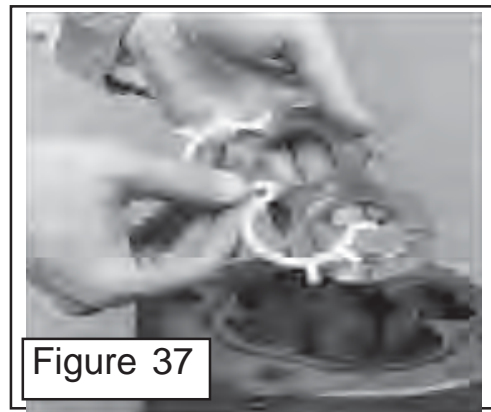

Figure 37
13. Assemble the channel seals (figure 10 item 7) into the grooves in the thrust plates (figure 10 item 8) with the flat side of the seal facing away from the thrust plates as shown (figure 37 & 38). **IMPORTANT NOTE:** Channel seals will always be on side of thrust plate away from gears, only the smooth side of thrust plates are against gears.